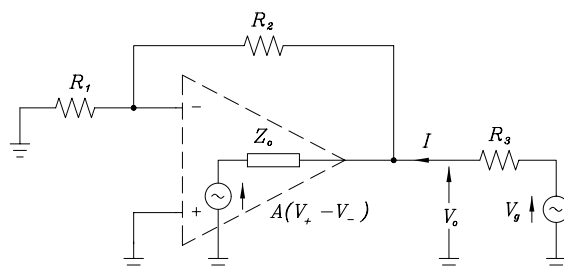

Figure 5: Circuit for measuring the output impedance
The output impedance of the amplifier can be measured by the circuit of Fig. 5. The output impedance of the amplifier together with feedback is given by $Z'_o = V_o/I$.
- (17) Set up the circuit of Fig. 5 with $R_1 = 1 \text{ k}\Omega$, $R_2 = 100 \text{ k}\Omega$ and $R_3 = 100 \Omega$. Use a sinusoidal input waveform at 10 kHz for V_g .
- (18) Observe V_g and V_o measure and their relative phase. The amplitude of V_g must be such that V_o is not slew-rate limited.
- (19) Calculate I and Z'_o . From the Bode plots of A obtained earlier, calculate Z_o . (Note: These quantities are, in general, complex). Compare $\text{Re } Z_o$, the output resistance, with the manufacturer's specifications.